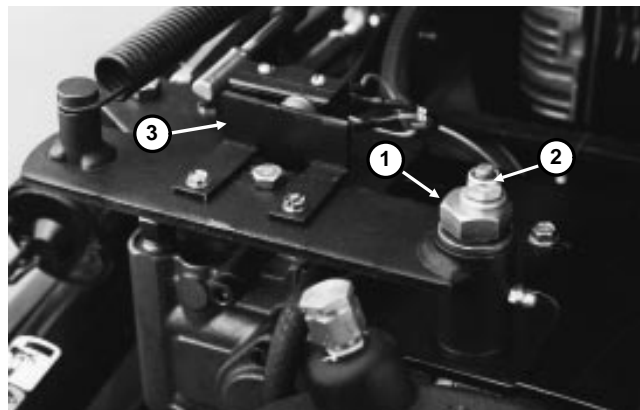

Figure 14
## Transmission Neutral Adjustment (Fig. 14)
4. Disconnect stroke control cable ball joint (Item 43) from pump lever (Item 30). Disconnect upper and lower speed adjustment rods from pump lever (see Fig. 14).